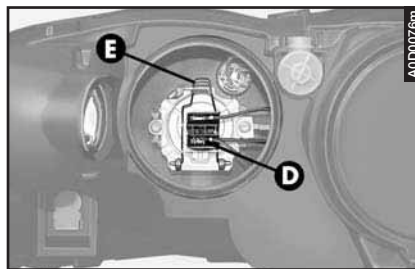

fig. 43
– Disconnect the snap-fitted connector (**D- fig. 43**) and release the clip (**E**).